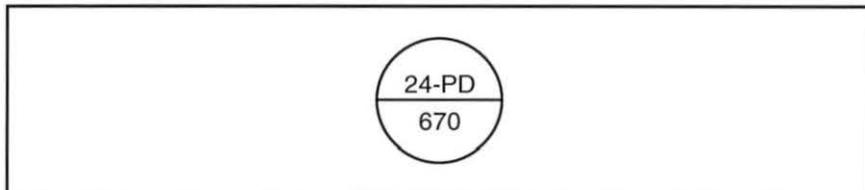

Figure 79. Instrument Tag
6. Identify the loop and area the device is in using the instrument tag in figure 79.